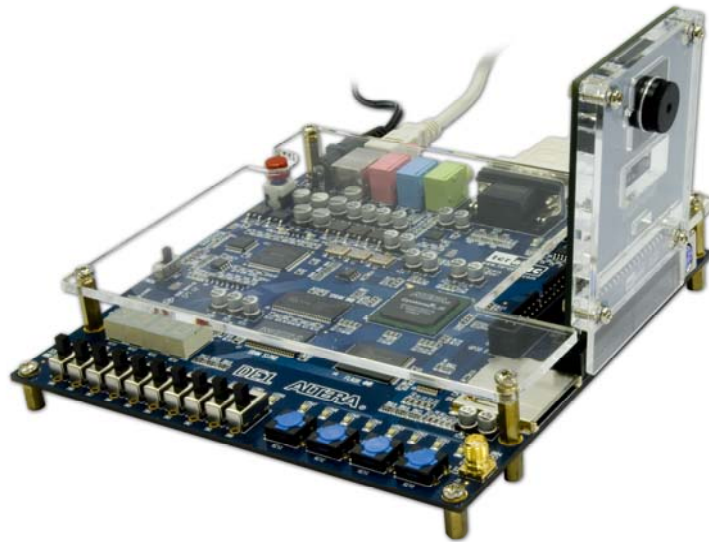

Figure 1.4 Connect the D5M to DE1 board's expansion port (**outermost port**).
3. Connect the D5M to your DE1 board as shown in Figure 1.4.